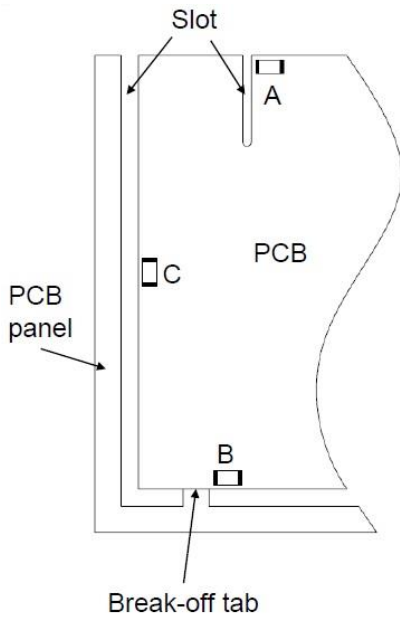

Figure 1 Suggested PCB layout
**Location A:** In Figure 1 the chip antenna installed at position A where the PCB may be easily deformed can subject the PCB to high mechanical stress and solder joint cracking may occur.